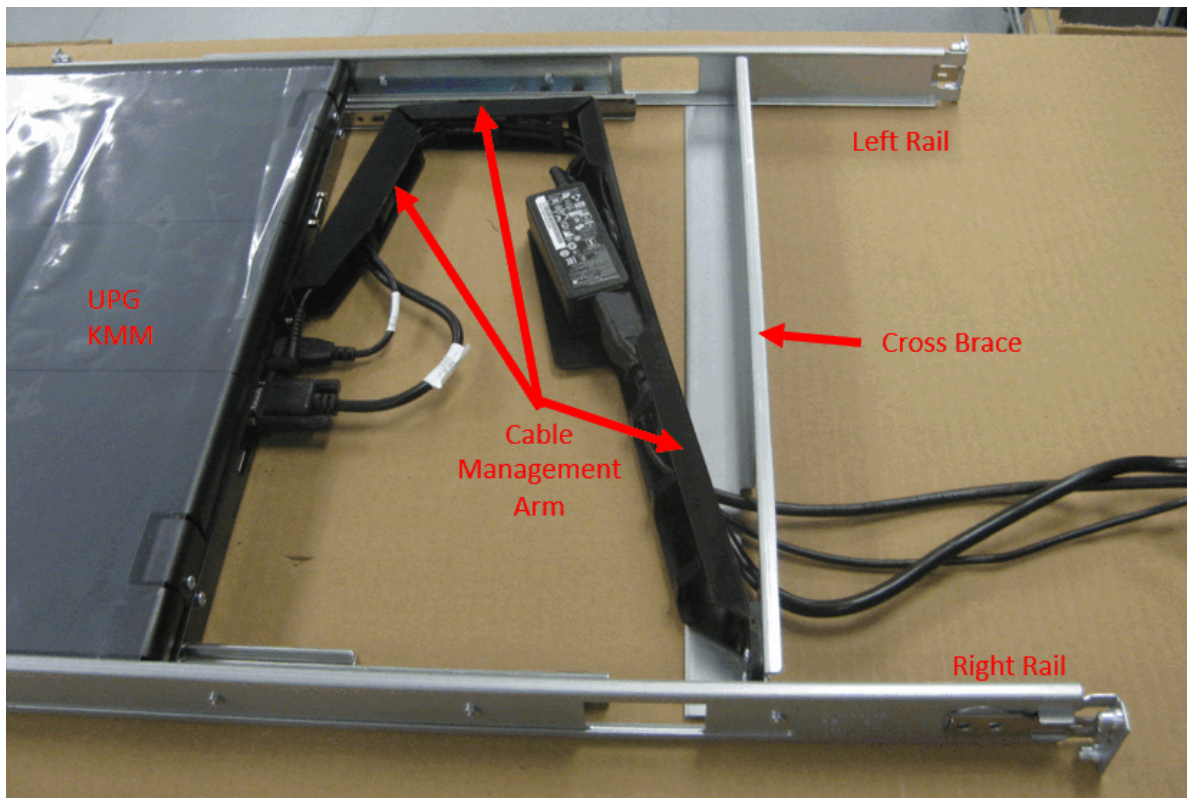

Figure 13. KMM rail assembly with cable management arm, cross brace, and cables installed
- ___ 9. Before continuing to the next step, refer to Figure 13 on page 105, which shows the KMM rail assembly with the cable management arm, cross brace, and cables installed. Use this figure as a reference as you complete the KMM and rail assembly installation (step “10” on page 105 through step “13” on page 105).